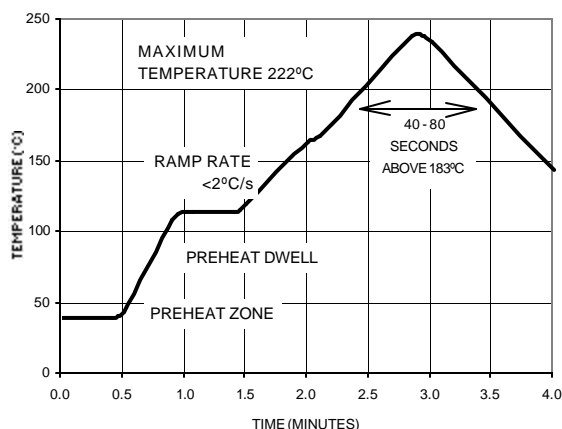

FIGURE 5: REFLOW SOLDER PROFILE
The principal techniques used for the soldering of components in surface mount technology are infrared (IR) re-flow, vapour phase re-flow and wave soldering. Typical profiles are shown in figures 5, 6 and 7. When wave soldering, the MHS suppressor is attached to the circuit board by means of an adhesive. The assembly is then placed on a conveyor and run through the soldering process to contact the wave. With IR and vapour phase re-flow, the device is placed in a solder paste on a substrate. As the solder paste is heated, it re-flows and solders the unit to the board.